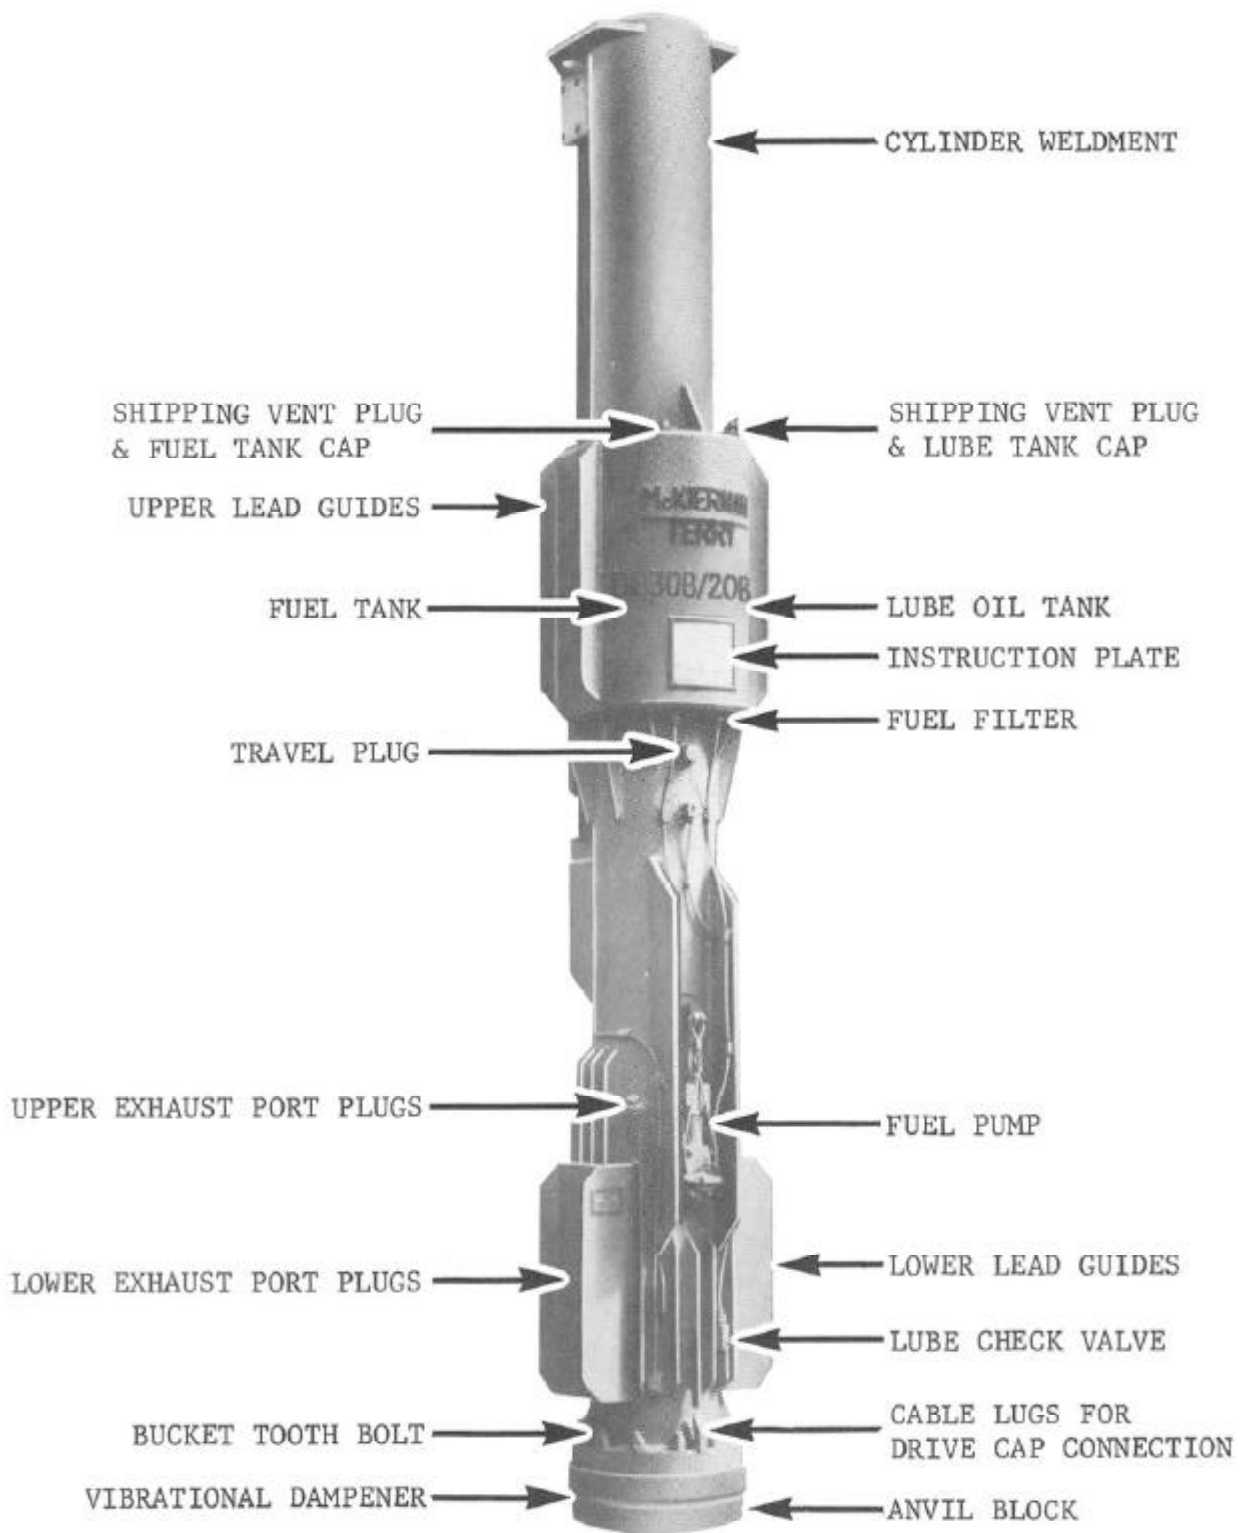

FIG. 12
3. Remove shipping vent plugs from both fuel and oil tank caps. (See Fig. 12, Page 10).
(See Fig. 12, Page 10).